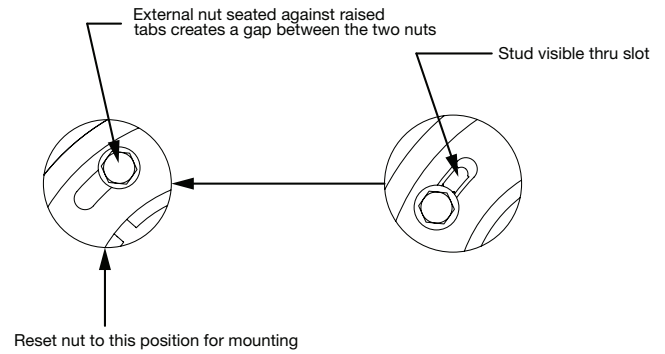

Figure 6 - External Nut Position for Installation
2. Loosen the hex head mounting bolts and position the external nut so that it is seated on top of the raised tabs, which creates the gap between the external and internal nuts. The external nut should be rotated counter clockwise so that the bolts are shouldered against the side of slot as shown in Figure 6. Thread the hex head bolts into the internal nut through each one of the slots on the external nut about 3 turns.